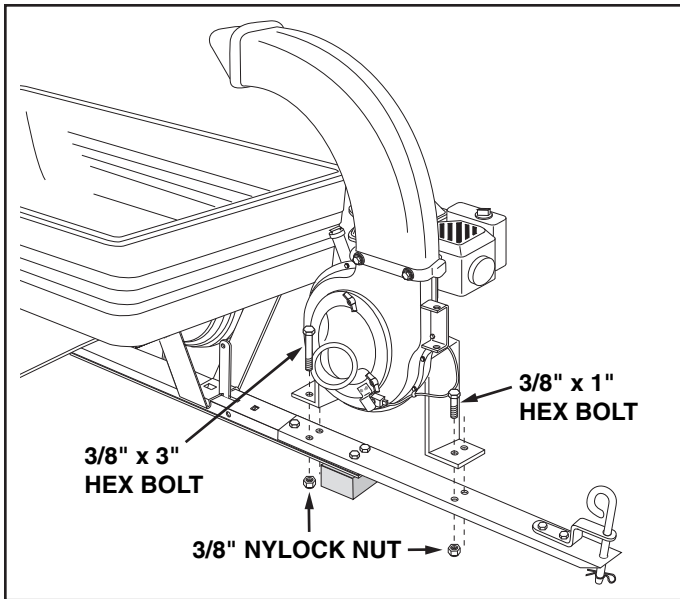

FIGURE 9
- Attach the engine mounting plate to the tongues using two 3/8" x 3" hex bolts in the back holes, two 3/8" x 1" hex bolts in the front holes and four 3/8" nylock nuts. See figure 9.